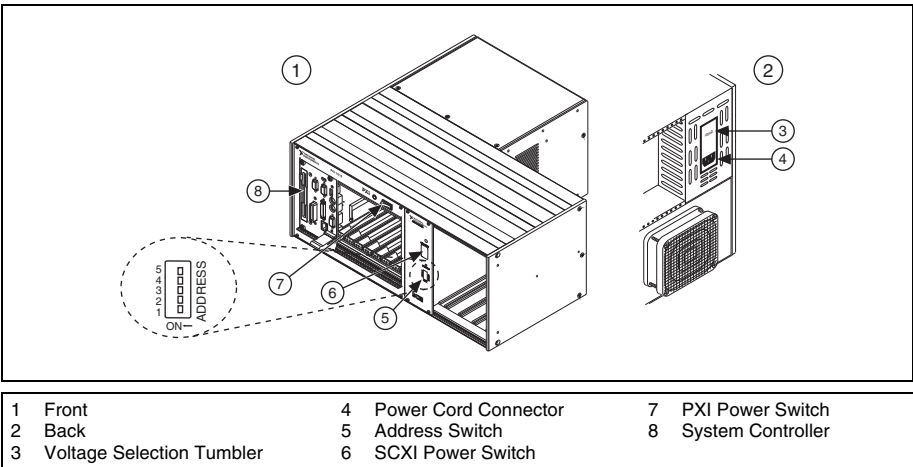

Figure 4. PXI/SCXI Combination Chassis Setup
2. Set the SCXI chassis address switch positions to the desired address. In Figure 4, all switches are shown in the off position.
If you are using an SCXI chassis, the chassis power switch is shown in Figure 3. If you are using a PXI/SCXI combination chassis, the PXI and chassis power switches are shown in Figure 4.